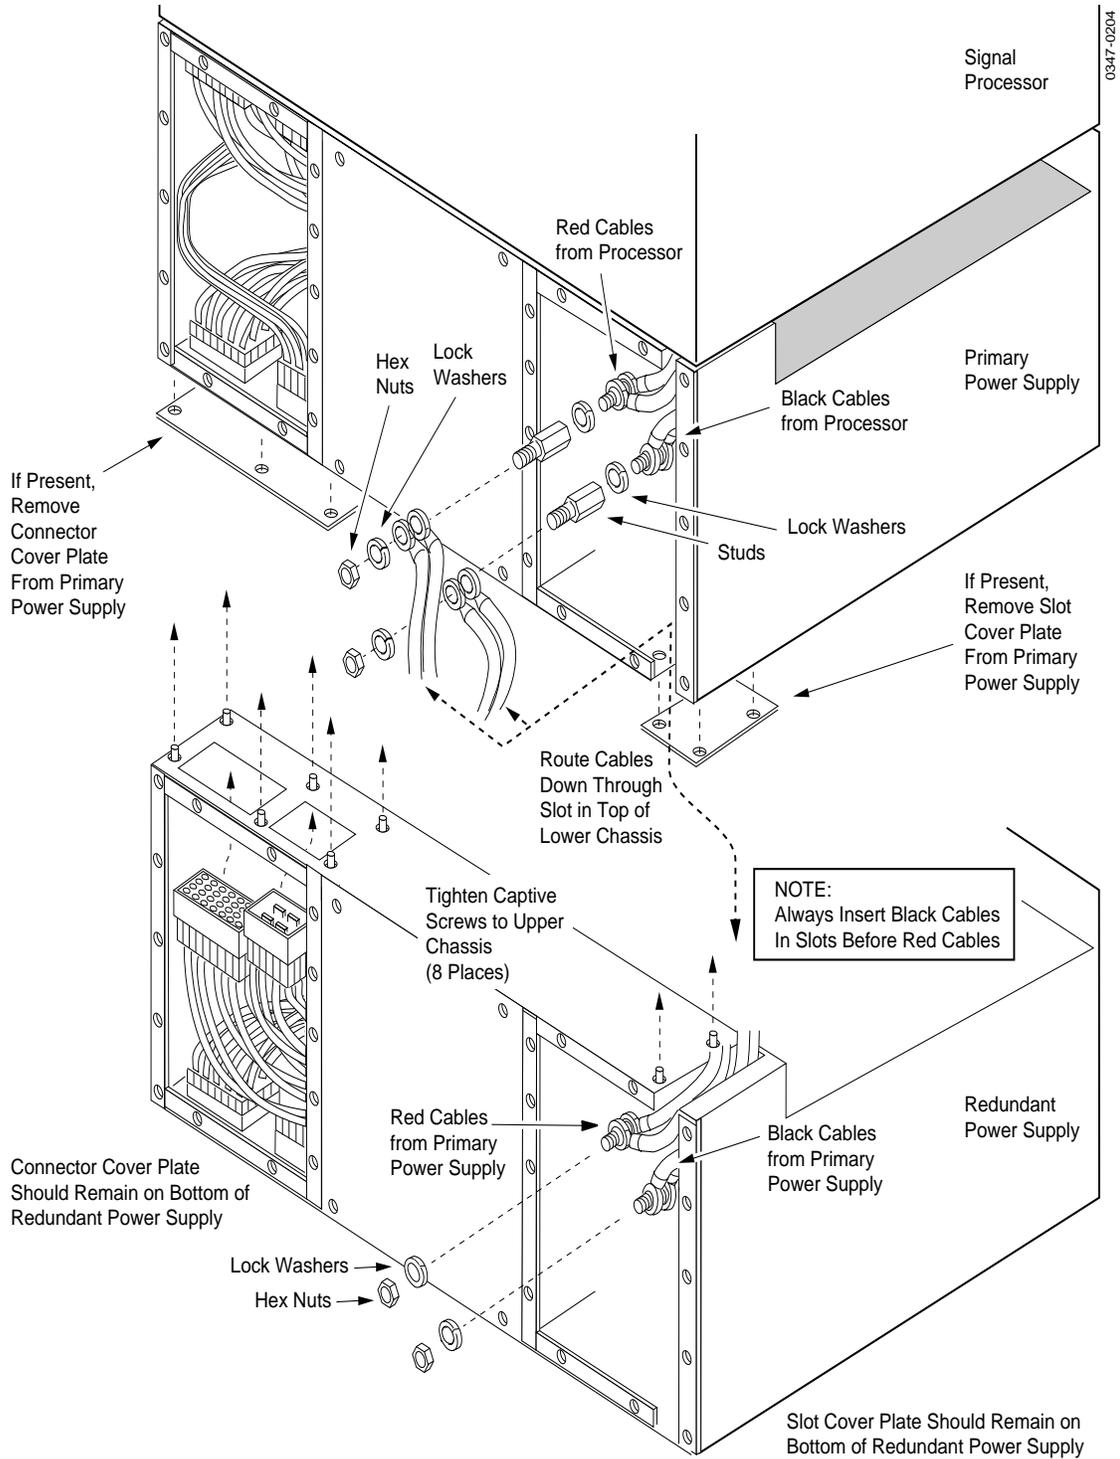

Figure 2-11. Redundant Power Supply Installation
5. Remove the connector and cable slot covers from the bottom of the Primary Power Supply (see Figure 2-11).